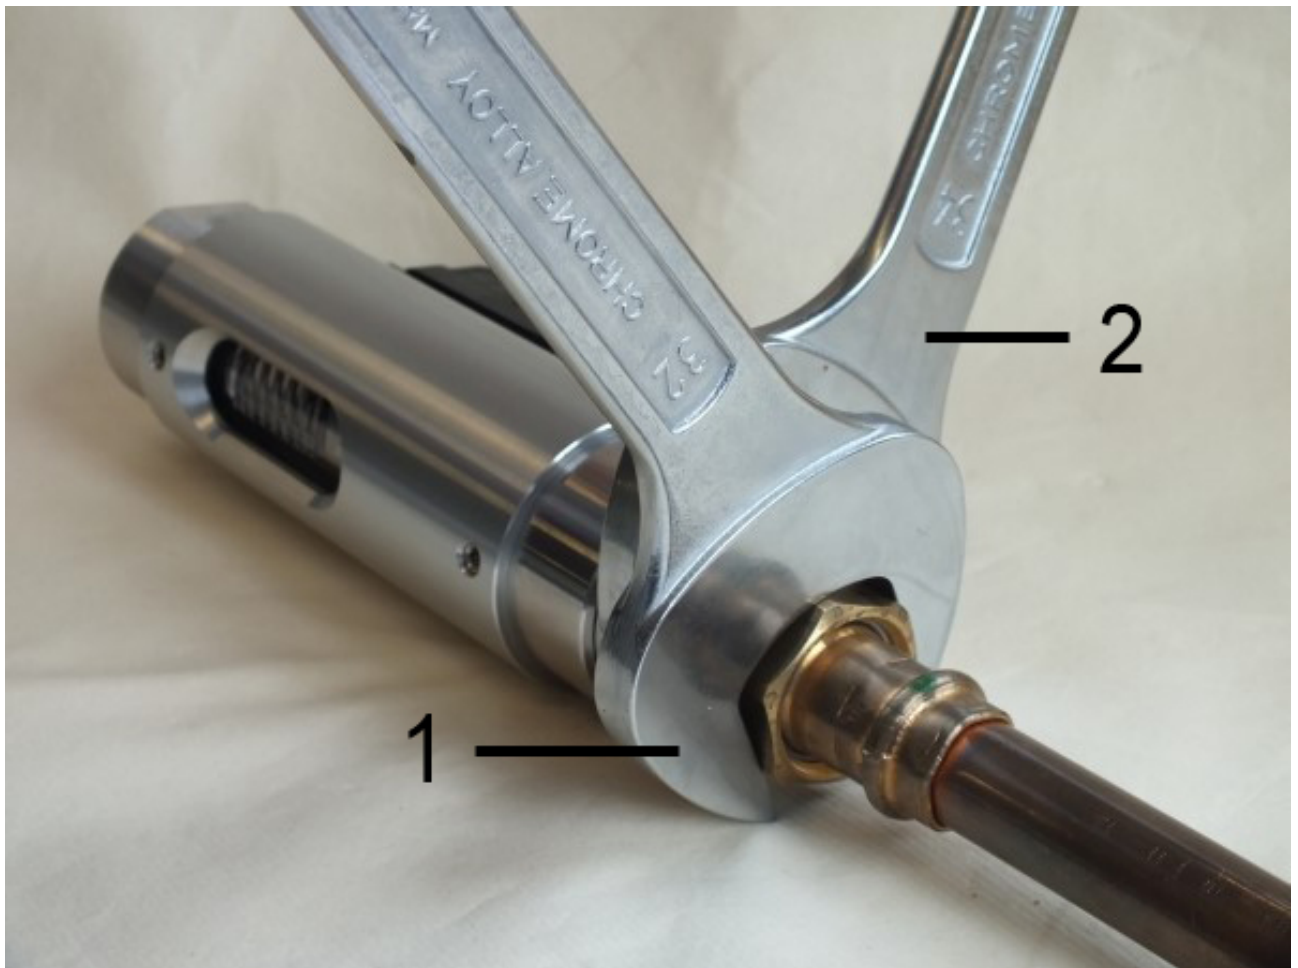

Fig. 11: Screw in the device
2. ➡ Fasten the adapter union of the pipeline with an appropriate spanner (*Fig. 11/1*) When doing so, lock the process connection in place to prevent slip, using a suitable spanner (*Fig. 11/2*)